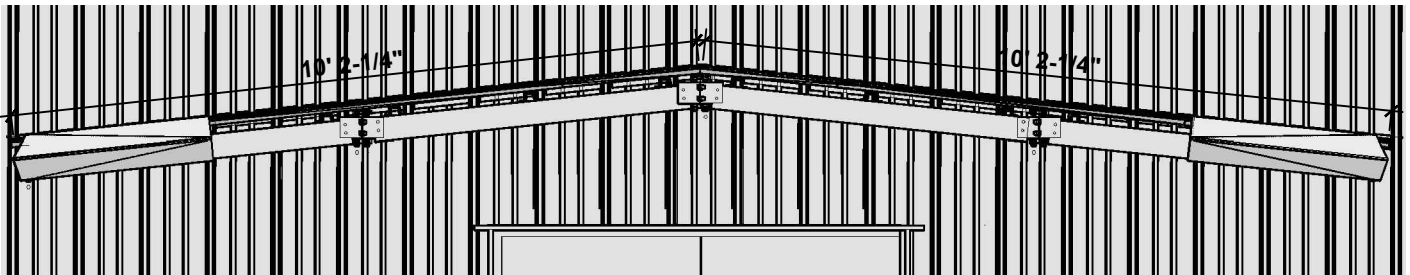

FIGURE 17
- Apply another strip of Tape Sealant on the outer most major rib of the roof sheet. Place the Rake Trim Ends in place as shown in **Figure 17**.